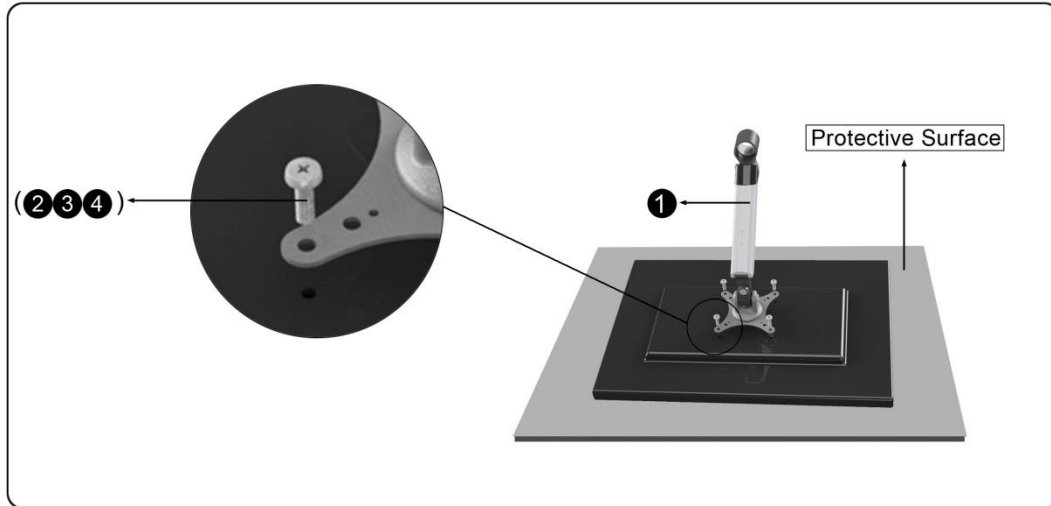

Figure 2-3
4. Place the gas spring arm on the back of the display and align the mounting holes with the VESA bracket. Thread the proper screws (2, 3, 4) through the VESA bracket and into the back of the monitor (See Figure 2-3).